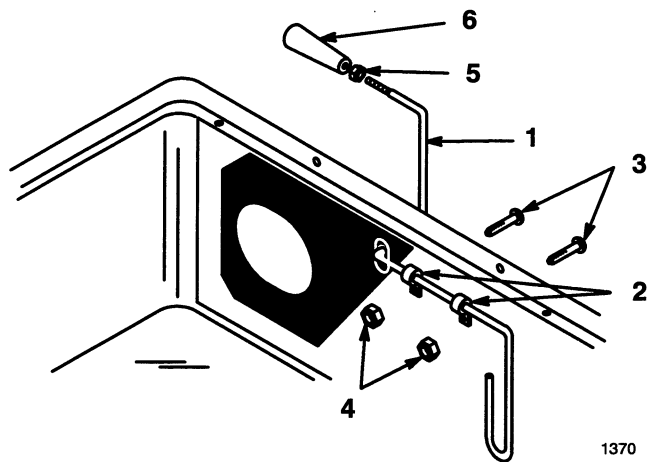

Figure 8
1. Slide threaded end of indicator rod through (2) clips, then rubber seal and slot in cover (Fig. 8).
2. Secure clips to cover with (2) 1/4 x 5/8" pan head screws and 1/4" lock nuts (Fig. 8).
3. Thread jam nut and handle completely onto threaded end of indicator rod. Rotate handle so you can read decal from operators position then tighten jam nut (Fig. 8).